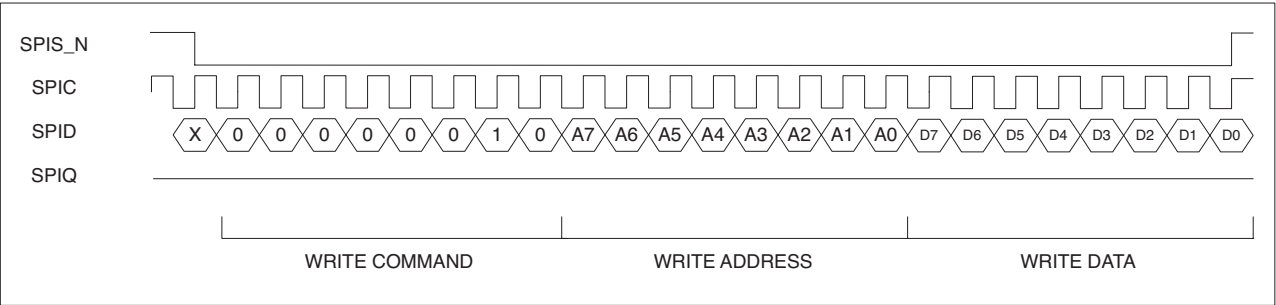
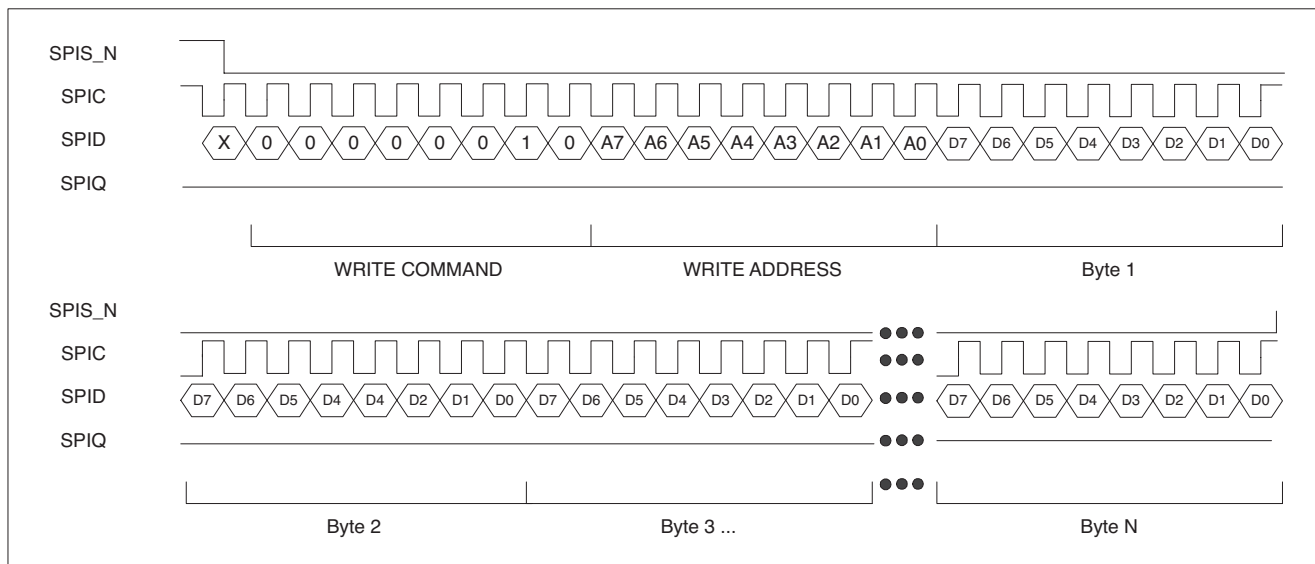

Figure 8. SPI Write Data Cycle
Figure 10. SPI Multiple Write
4. Write configuration to registers using a typical SPI write data cycle as shown in Figure 8 or SPI multiple write as shown in Figure 10. Note that data input on SPID is registered on the rising edge of SPIC.